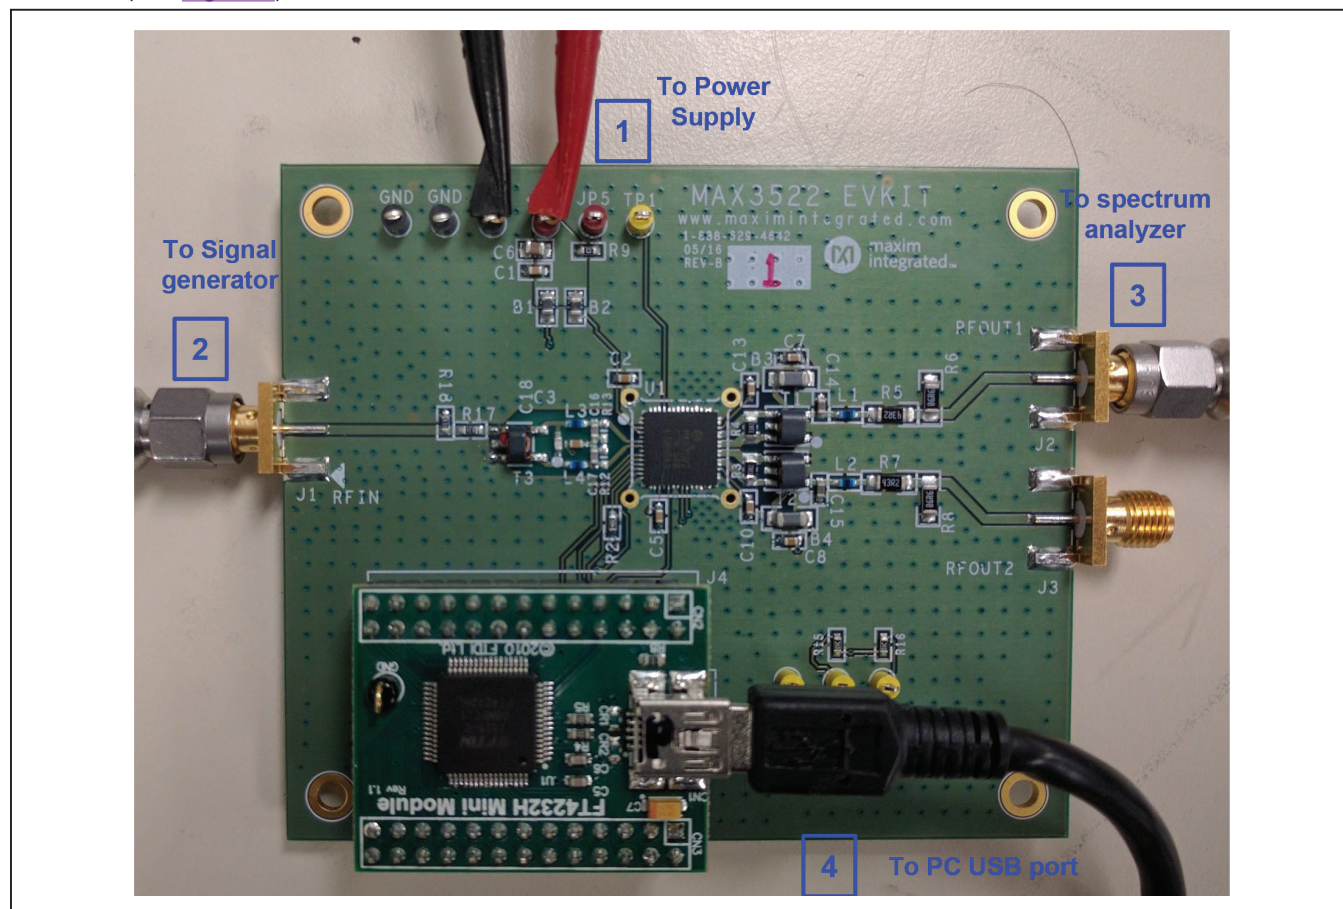

Figure 1. EV Kit Hardware Setup
- 1) With its output disabled, set the DC power supply to +5V. If available, set the power supply's current limit to 2000mA. Connect the power supply to the +5V (through an ammeter if desired) and GND terminals on the EV kit, as shown in Figure 1.
- 2) With its output disabled, set the RF signal generator to 85MHz and a power level of -20dBm. Connect the output of the RF signal generator to the SMA connector labeled J1 RF IN on the evaluation board, as shown in Figure 1.
- 3) Connect the SMA connector labeled J2 RFOUT1 or J3 RFOUT2 on the evaluation board to a spectrum analyzer, as shown in Figure 1.
- 4) Connect the USB cable from FT4232 module's USB mini-B port to PC USB port, as shown in Figure 1.